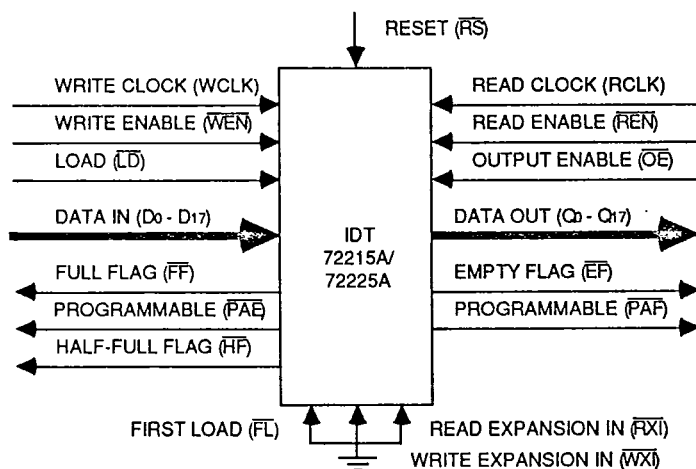

Figure 20. Block Diagram of Single 512 x 18/1024 x 18 Synchronous FIFO
when the Write Expansion In (\overline{WXI}), Read Expansion In (\overline{RXI}), and First Load (\overline{FL}) control inputs are grounded. (See Figure 20.)
1. The first device must be designated by grounding the First Load (FL) control input.
3. The Write Expansion Out (WXO) pin of each device must be tied to the Write Expansion In (WXI) pin of the next device. See Figure 20.
4. The Read Expansion Out (RXO) pin of each device must be tied to the Read Expansion In (RXI) pin of the next device. See Figure 20.
6. All Load (LD) pins are tied together.
7. The Half-Full Flag (HF) is not available in the Depth Expansion Configuration.